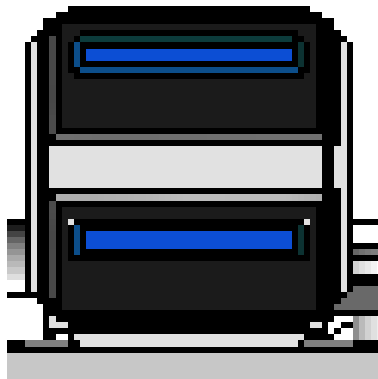

Figure 3-37: Dual USB 3.2 Gen 1
- CN Location:** See Figure 3-37